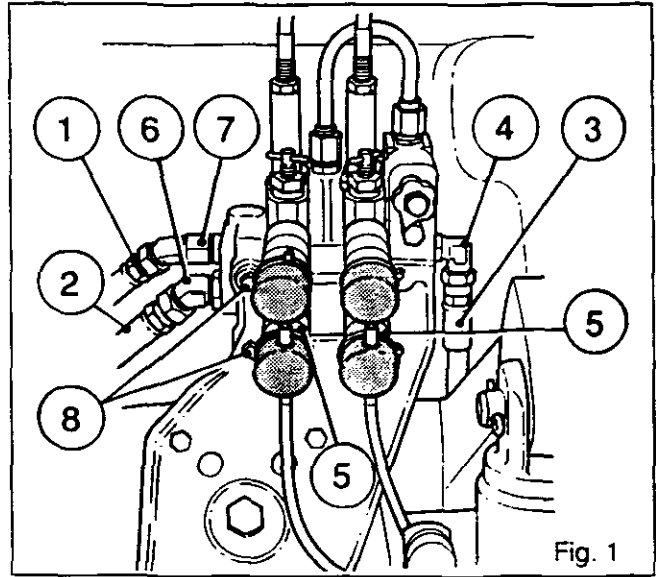

Fig. 1
2. Disconnect hoses (1), (2) and (3)(Fig.1).
3. Remove unions (4), (6) and (7), quick fit couplings (5) and screws (8)(Fig.1). Remove the spool valve assembly and place upright on a bench.